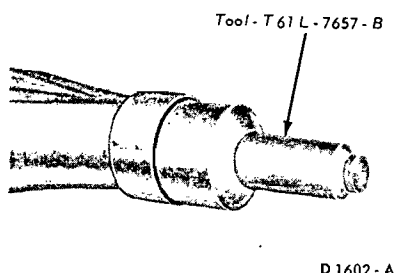

FIG. 29—Installing Extension Housing Seal
6. Install the seal into the housing with the tool shown in Fig. 29. The seal should be firmly seated in the bore. Coat the inside diameter of the fiber portion of the seal with B8A-19589-A lubricant.